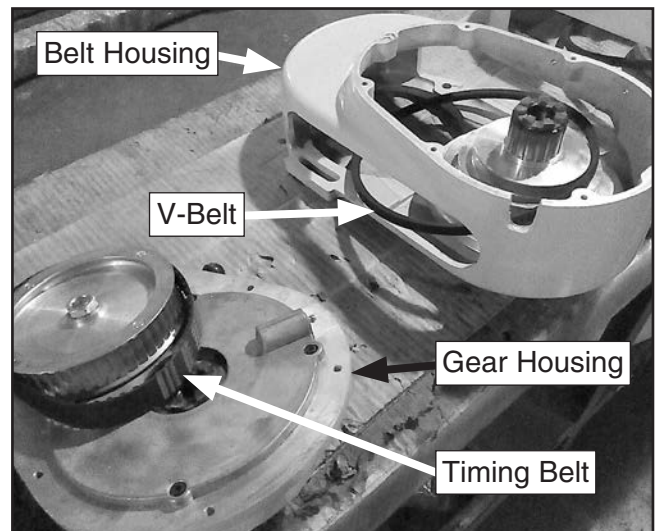

Figure 95. Once gear housing is separated from belt housing, both belts can be accessed.
- Use a 5mm hex wrench to remove gear housing from belt housing (see **Figure 95**).